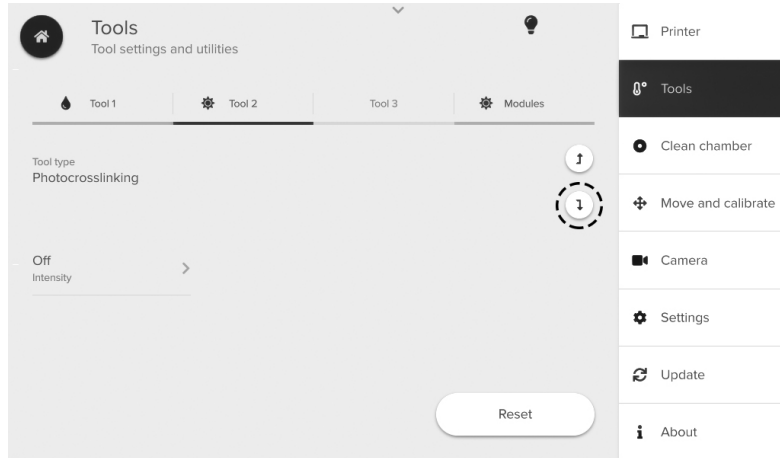

Figure 5: Lowering the toolhead into the active position.
2. Lower the desired toolhead mount into the active or loading position by pressing the down arrow (Figure 5).